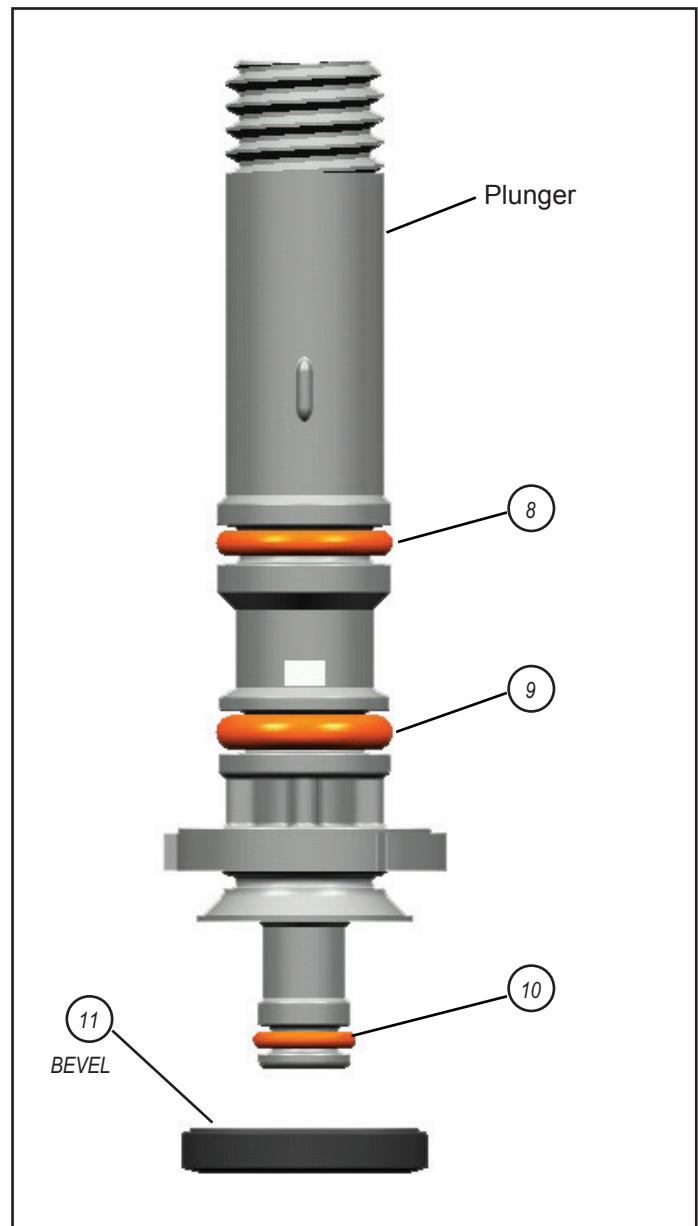

Figure 2 **Bendix® MV-3® Manifold Valve Plunger**
5. Remove the tripper valve cap and o-ring (1) from the bore of the tripper valve. Remove the piston, override spring (2), spring (3), and check valve (4). These parts will all fall out of the cavity of the Bendix® MV-3® valve by tilting the body forward. Remove the o-ring (5) from its groove on the piston.
6. Remove the two main spools from the body of the valve by grasping the plunger and pulling firmly. Remove the two springs (6) from the bottom of each spool cavity.
7. Pull the guide spool over the threaded end of one of the plungers. Remove the o-ring (7) from the guide spool. Remove o-rings (8, 9 & 10) and the exhaust seal (11) from the plunger. *Refer to Figure 2.*
9. Remove the retaining ring (12) from the cavity of the MV-3 valve body that contains the dual circuit supply valve.
10. Pull the shuttle valve seat assembly from the valve. Remove the two o-rings (13 and 14) from the shuttle valve assembly. Remove the check valve (15) from the MV-3 valve body.
5. Install o-rings (8, 9 & 10) and the exhaust seal (11) onto the stem of plungers.
***The exhaust seal (11) must be installed so that its beveled surface mates with the beveled surface of the plunger. See Figure 2.***
6. Install o-ring (7) onto the guide spool. Install the guide spool over the threaded end of the plunger and press down firmly until it snaps into place.
7. Install plunger spring (6) over the boss in the bottom of the spool cavity in the body of the MV-3 valve. Place the spool assembly into the body, keeping the spool square to the body, press and turn the stem until the spool is fully seated in its cavity. Note the assembly is keyed and may only be installed one way.